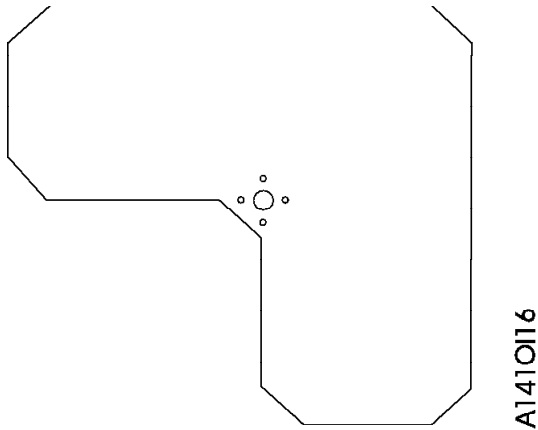

Figure 6-1. Rotating Drive Interlock Plate
- \_\_\_ 2. Ensure that the rotating drive interlock plate, P/N 05H8986, shown in Figure 6-1, is installed. The plate is installed on a frame member to ensure only one drive at a time can be pulled to the rear for service. **This safety plate must be installed to maintain a balanced and safe environment.**